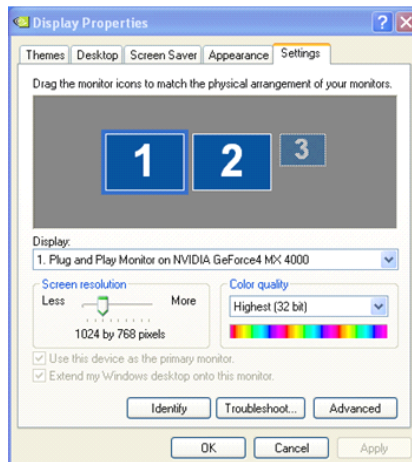
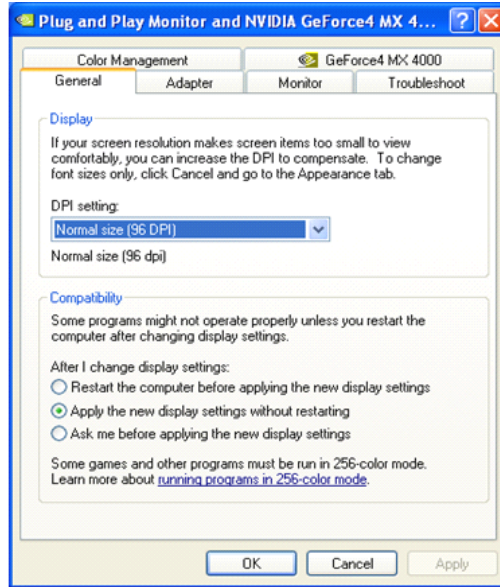

Figure 12-2
Figure 12-3
Click **[Property]** and the property menu will appear (Figure 12-2), click **[Set]** and the monitor (2) is activated. Select **[Expand the content of Windows to the monitor]** under the frame and press **[Application]** button, and then confirm. In this way, setting has been finished and the backstage playing can be realized. At this time, when pressing **[Back]** button of <LED studio device> too bar, the playing window will switch at the front and back stage of the monitor. When the playing window is switched to the front stage, the display screen will indicate Windows interface.
The following reverse settings shall be carried out when the front-stage playing replaces the backstage playing: right click the blank place in the desktop and Figure 12-1 will appear and then select [Property], Figure 12-2 will appear. Click [Monitor 2] and remove [√] on the [Expand the content of Windows to the monitor] and click [Monitor 1]. Press [ok] and right click the mouse, Figure 12-1 will come out. Select property and Figure 12-2 will appear and click [Set] following with [senior], Figure 12-3 will come out. Click [display], Figure 12-4 will come out and then click red switch in [PDF(F)] bar, the switch will turn green